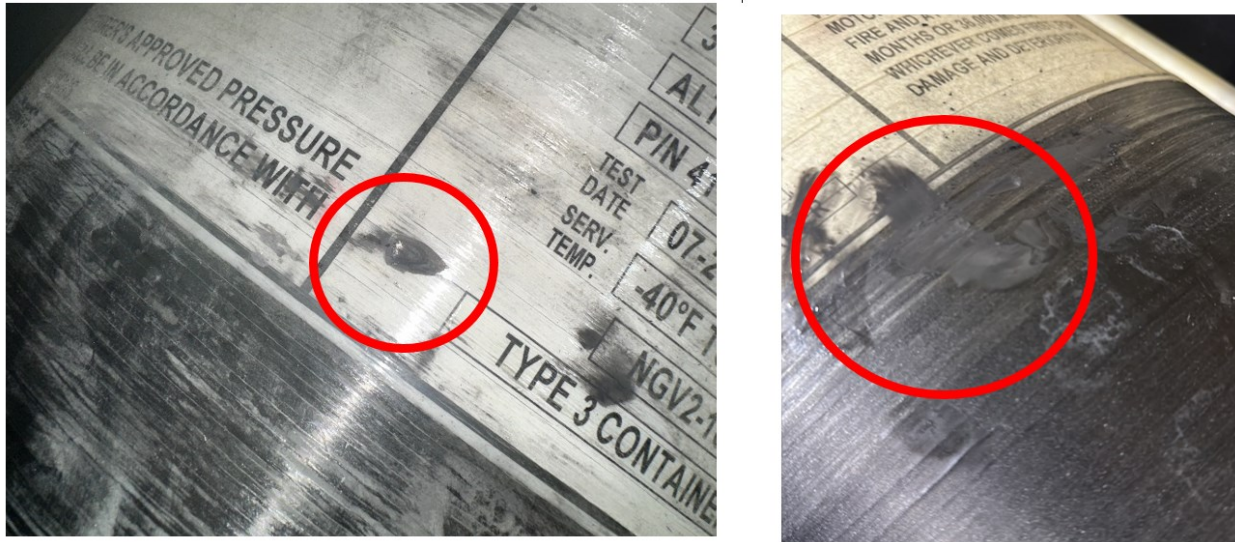

Figure 4 - Examples of cable rubbing into CNG tanks.
5. Below are two examples of what the damage can look like. (Please see Figure 4).